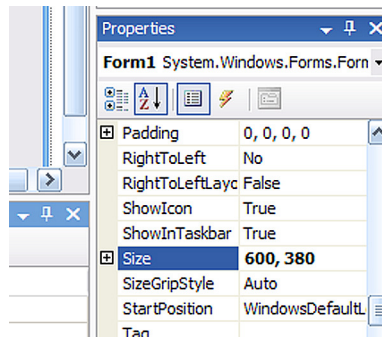

Figure 7: Properties
- In the Properties Window change the size from 300,300 to 600,380. (Figure 7: Properties)